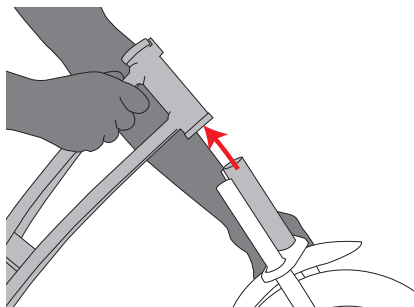

Figure 2
- Insert the front fork and wheel middle tube into the front steering hub of the bicycle frame so that the front fork and wheel tube extends through the top of the front steering hub. See Figure 2.